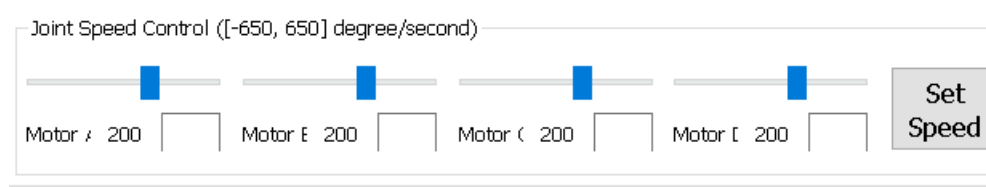

Figure 2.20: Joint Speed Control section
**Joint Speed Control Section** The “Joint Speed Control” section, as shown in Figure 2.20, displays and controls the motor speeds of the robot. The joint speeds are in units of degrees per second and a valid speed should be in the range of  $[-650, 650]$  degree/second for hardware robots,  $[-570, 570]$  degree/second for virtual robots in RoboSim. To set a specific desired motor speed for a particular motor, the motor speed may be typed directly into the edit boxes below the sliders, and the “Set Speed” button should be clicked. Dragging each slider can also modify the speed of corresponding motor.